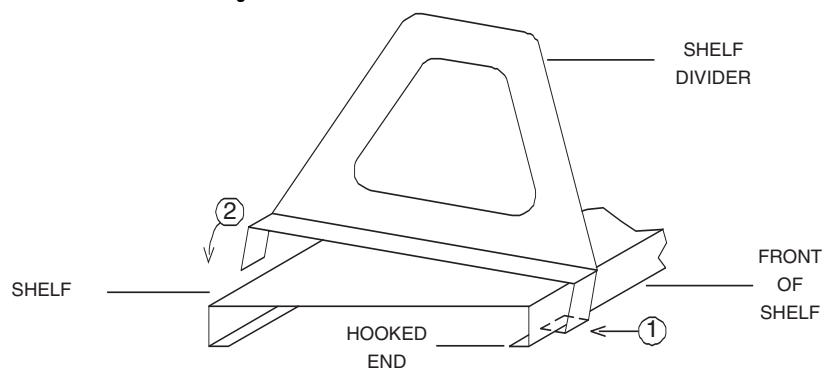

FIG. 3
The "shelf divider" can be located at any point along the shelf (Figure 3).
4. From under the cabinet, install (4) #8 x 3/8" self-tapping screws through the slots in the side panel support flanges (Figure 3). DO NOT tighten the screws down completely.
5. At the lower edge of the cabinet, install (2) #8 x 3/8" self-tapping screws through the back and into the shelf (Figure 3). DO NOT tighten the screws down completely.